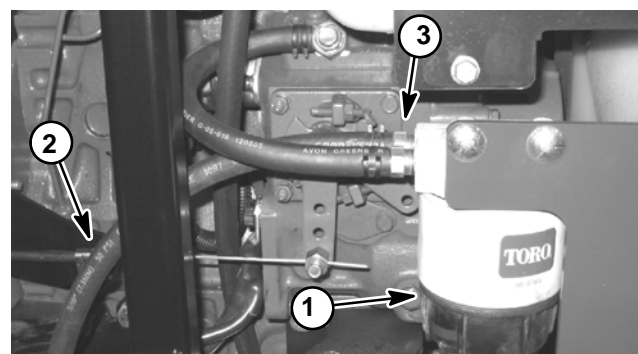

Figure 66
3. Disconnect fuel hose (pump discharge) from the fuel/water separator inlet fitting (Fig. 66).